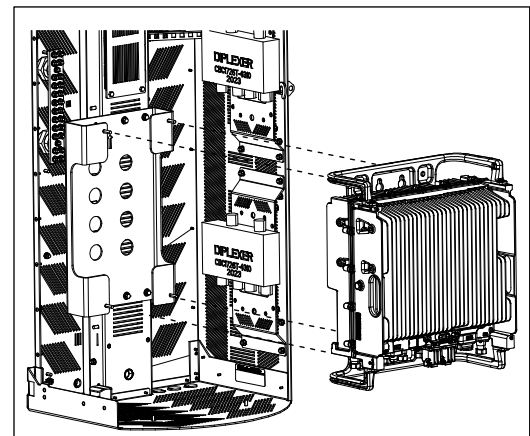

Figure 5 Mount AZHL Radio
6. Attach the Nokia AZHL radio to the studs on the front of the mounting bracket and secure in place using customer supplied hardware (Figure 5).